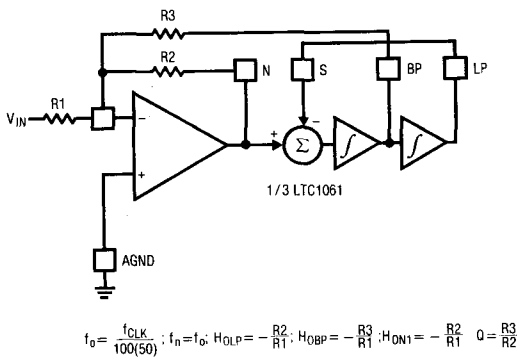

Figure 3. Mode 1: 2nd Order Filter Providing Notch, Bandpass, Lowpass.
1. Primary Modes: There are two basic modes of operation, Mode 1 and Mode 3. In Mode 1, the ratio of the external clock frequency to the center frequency of each 2nd order section is internally fixed at 50:1 or 100:1. In Mode 3, this ratio can be adjusted above or below 50:1 or 100:1. The side C of the LTC1061 can be connected only in Mode 3. Figure 3 illustrates Mode 1 providing 2nd order notch, lowpass, and bandpass outputs (for definition of filter func-